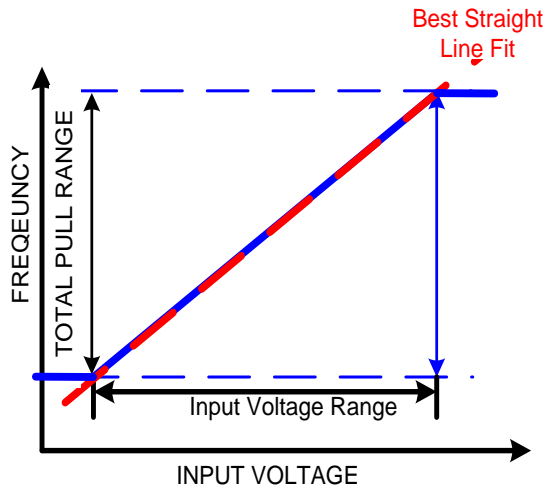

Figure 49. Typical KDS VCTC-MO Linearity
In any VCTC-MO, there will be some deviation of the frequency-voltage (FV) characteristic from an ideal straight line. Linearity is the ratio of this maximum deviation to the total pull range, expressed as a percentage. Figure 49 below shows the typical pull linearity of a KDS VCTC-MO. The linearity is excellent (1% maximum) relative to most quartz offerings because the frequency pulling is achieved with a PLL rather than varactor diodes.